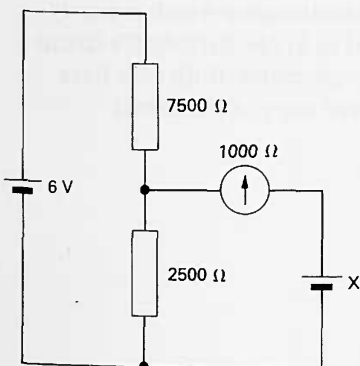

Figure B72
- 25(P)** If the meter in the circuit (figure B72) reads zero, what is the e.m.f. of battery X? (The 6 V battery has negligible internal resistance.)